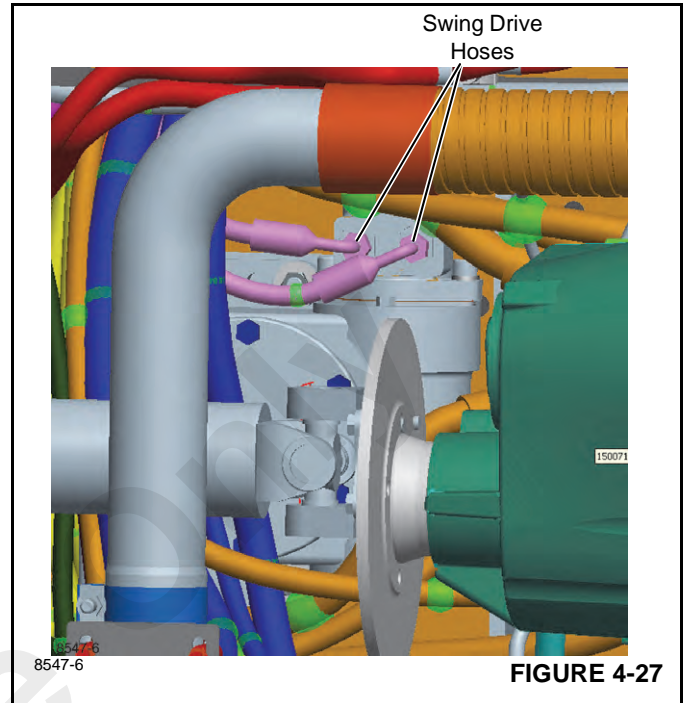

FIGURE 4-27
2. The hoses connected to the swing drive, shown in Figure 4-27, will need disconnected. Both the fittings at the swing drive will need capped and the hoses will both need plugged.